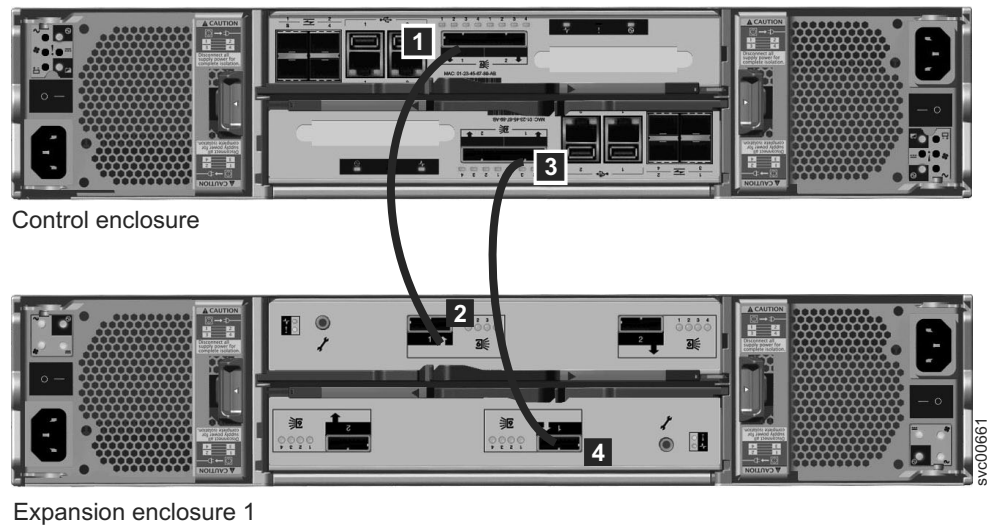

Figure 46. Attaching an expansion enclosure to the control enclosure
- Attach the SAS cables from the control enclosure to the first expansion enclosure as shown in Figure 46. Remove the protective end covers, if necessary. The first expansion enclosure is below the control enclosure.